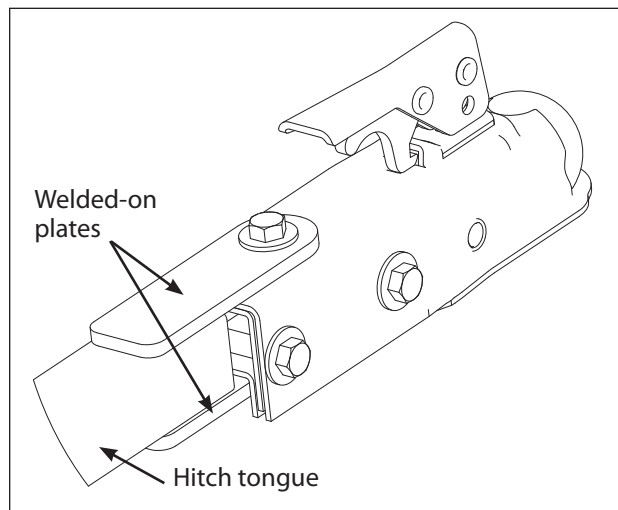

Figure 2: Completed view
2. Secure the previously assembled adaptor weldment/coupler to the pin hitch tongue plates by inserting the assembly in-between the welded on pin hitch plates of the trailer tongue. **SEE FIGURE 2.** Use the (1) provided 3/8-16 x 2-1/2" bolt, nyloc nut and (2) washers to secure assembly to the tongue. **YOU MAY NOW TIGHTEN ALL NUT & BOLT COMBINATIONS SECURELY.** Do not overtighten.